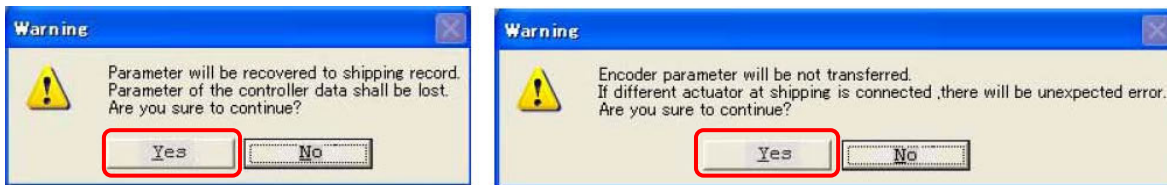

Fig. 8.31 Warning Dialog
- (3) Selecting the displayed menu Parameter of Shipping displayed in (2) will display a dialog in Fig. 8.31. If you have no problem, click Yes.